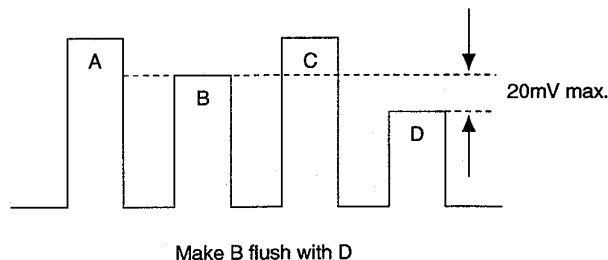

Fig. 5-11
3. Connect the probe of an oscilloscope to IC404 ③⑩ PIN or TP402.
5. Adjust **SUB CHROMA SMPTE** so that the levels of B and D will be the same. (Fig.5-11)